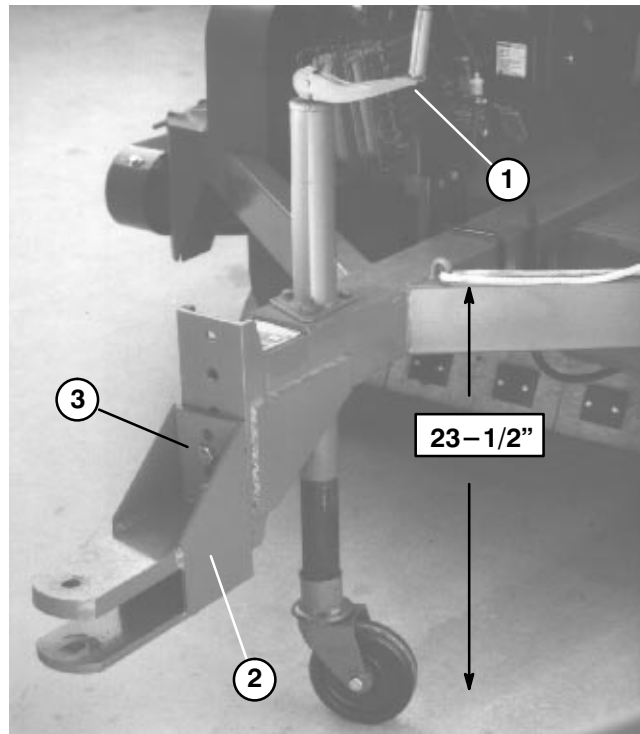

Figure 1
(Fig. 1 & 2)
A. Remove capscrews and locknuts securing hitch tongue to frame (Fig. 1).
B. Raise or lower hitch tongue to position approximately level with prime mover hitch and secure with (2) capscrews and locknuts.